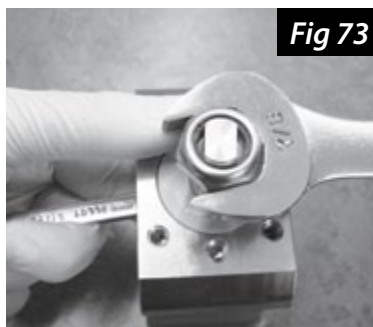

Fig 73
9. Remove the stem nut with a 7/8" wrench. Hold the valve stem in place by grasping the base of the stem on the inside of the valve body with a 5/16" or 8mm open-end wrench or an adjustable wrench (Fig 73). **Note: This nut will be replaced with a new nylon lock nut and therefore can be discarded.**